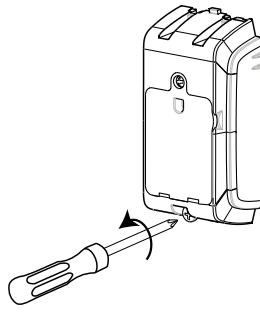

Figure 3 - Unscrewing device
2. Unscrew the lower screw from the device cover, as in Fig. 3.